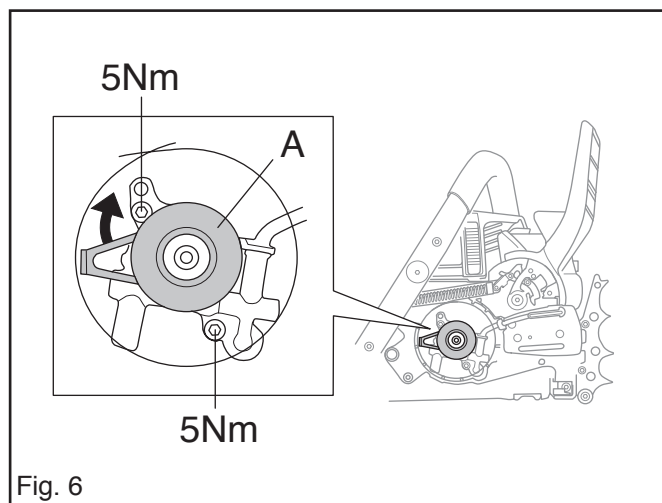

Fig. 6
7. Tighten the bolts to 5 Nm. See fig. 6.
8. Fit the oil pump gear. See fig. 6.